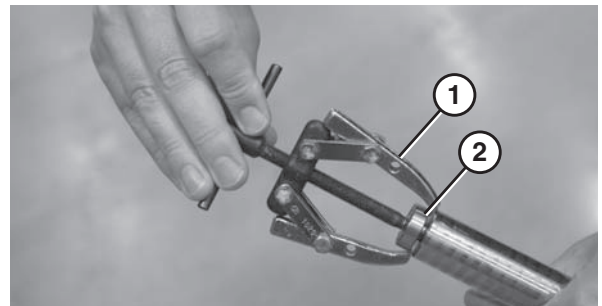

Figure 44
- Using a bearing removal tool (Figure 44, item 1) remove the bearing (Figure 44, item 2).